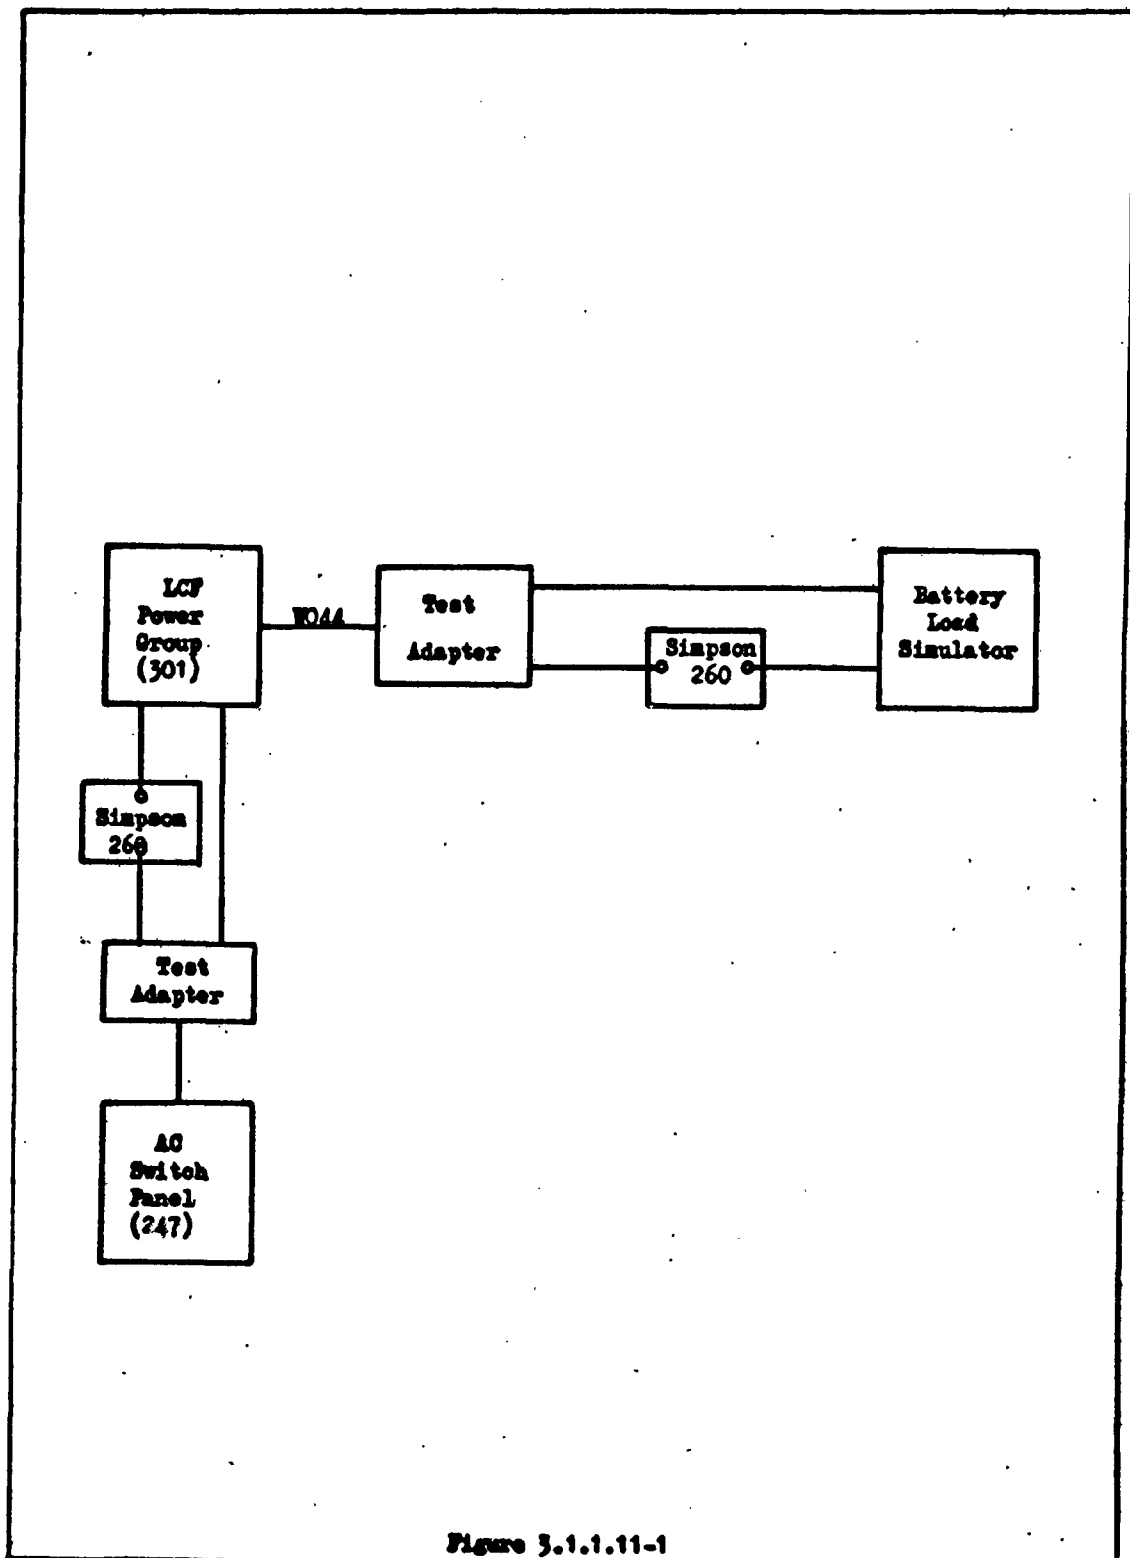

Figure 3.1.1.11-1
3.1 Connect the equipment per Figure 3.1.1.12-1.